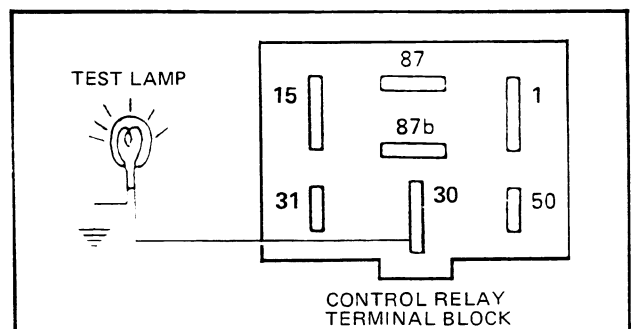

Figure 6C-156
2. Check for voltage supply to the terminal corresponding to terminal 30 of control relay and earth, refer Fig. 6C-156. If not, check for continuity of wiring to terminal. Refer to wiring diagrams in Section 12F of this Supplement. If O.K. proceed to next test.